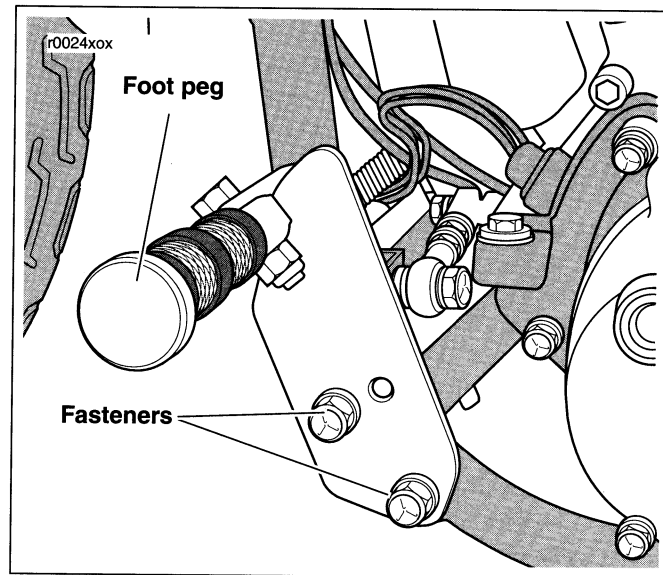

Figure 16. Footrest Adjustment
2. See Figure 16. Locate the fasteners and washers on the footrest.